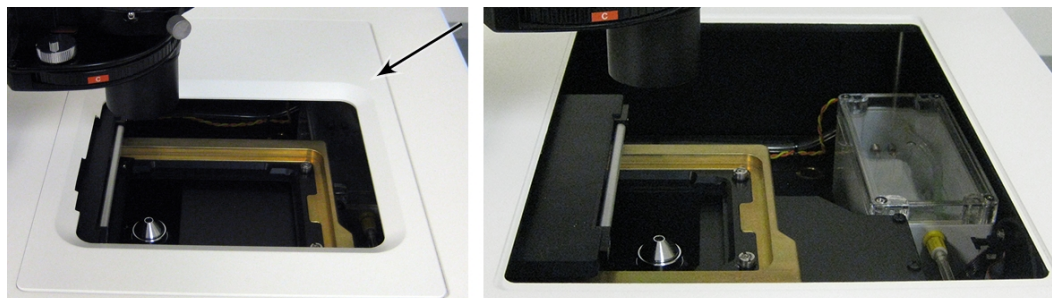

Figure 7-24: Top Access Panel Around the Top Door On and Off
14. Replace the top access panel surrounding the top door and close the upper hinged side door. See Figure 7-24.